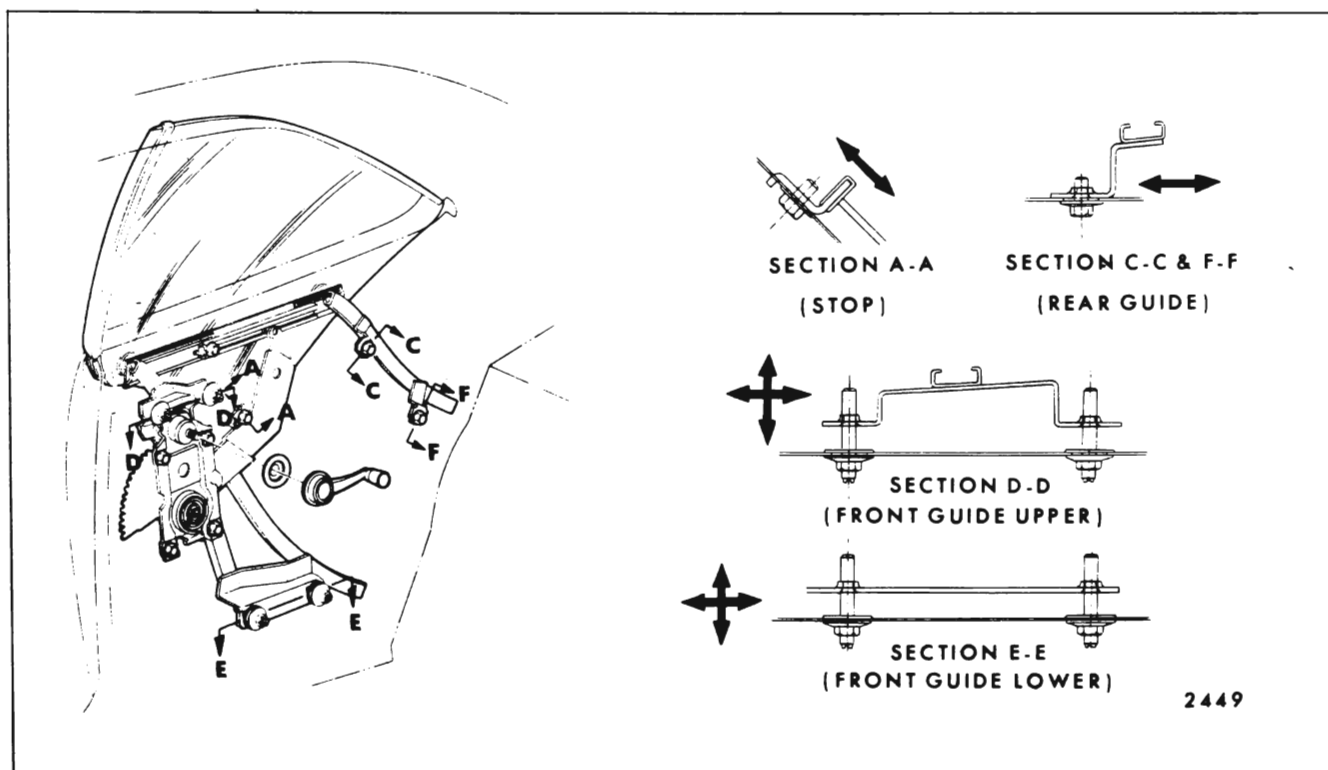

Fig. 7-40—Rear Quarter Window Adjustments - "Z-37" Styles (Arrows Indicate Adjustment Direction Available)
1. The quarter window up-stop can be utilized for adjustments of glass to side roof rail weather-strip (see Section "A-A" in Fig. 7-40).
2. The rear guide can be adjusted to gain proper fore and aft contact of rear quarter window vertical weatherstrip to rear edge of front door window (see section "C-C" and "F-F" in Fig. 7-40).
3. The upper two adjusting studs of the rear quarter window front guide are used for "in or out" and "fore or aft" adjustment of quarter window at front leading edge (see Section "D-D" in Fig. 7-40).
4. The lower two adjusting studs of rear quarter window front guide are adjustable "up or down" and "fore or aft" for proper operation of quarter window (see Section "E-E" in Fig. 7-40).